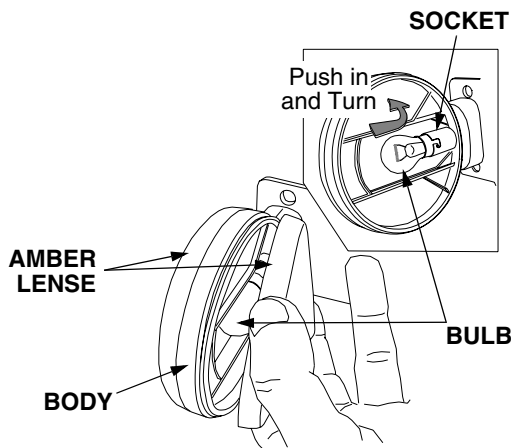

Figure 36
- Insert a **thin** bladed screwdriver, or similar tool, between an amber lense and the hazard light body, then twist to separate the lense from the body. Refer to Figure 36.
- Push the bulb inward and turn counterclockwise, then pull the bulb outward to remove from the light socket. See Figure 36.